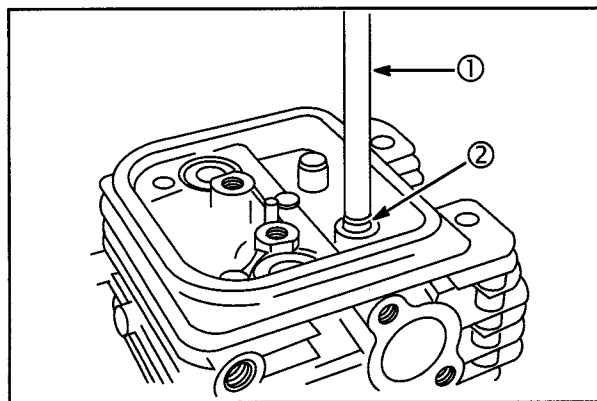

Fig. 11
1. Press out old valve guide (2) using Bushing Driver (1), #19367, Fig. 11.